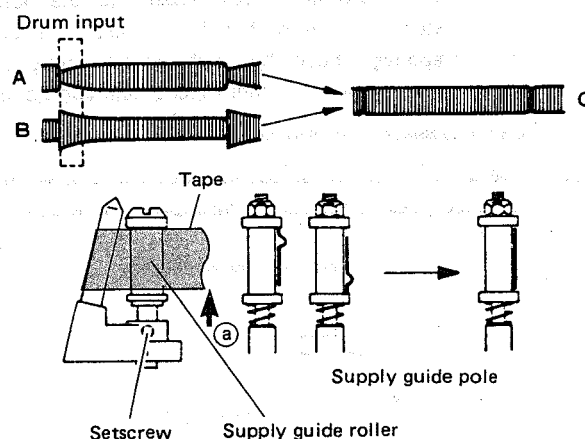

Fig. 2-45 Drum input adjustment
4. Refer to Fig. 2-45. Examples of incorrect waveforms are shown by A and B.
5. Observe the top edge of the tape travels along the lower face of the upper flange and check the waveform does not fluctuation as the tape is lightly pushed up at point (a) as shown in Fig. 2-45